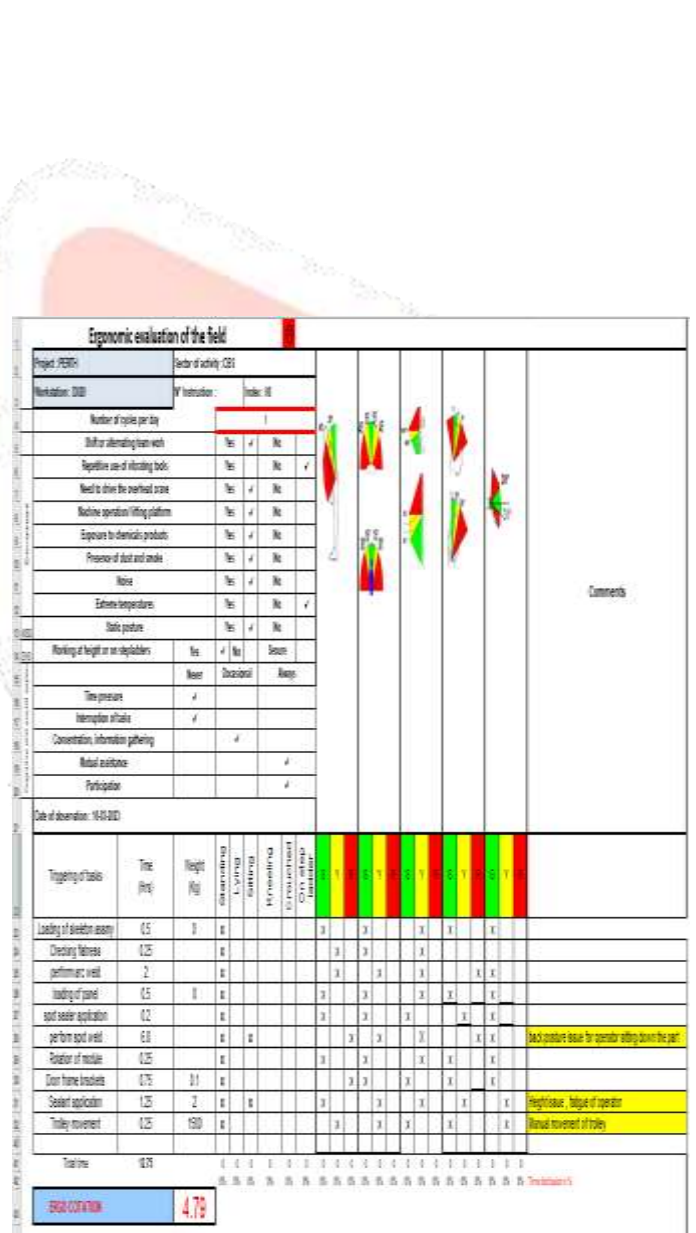

Fig 6 Ergonomic Assessment Checklist- Equipment Mounting
- After completed entering the details, automatically the score will be displayed at the bottom as Ergo cotation Fig 6, which is 4.14 for the spot welding activity which is critical.